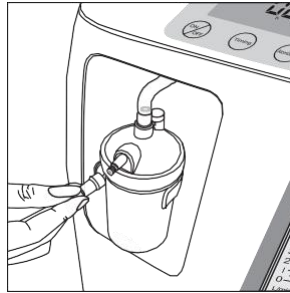

Figure 5
C. Connect your cannula to the humidifier bottle, as shown in the Figure 5